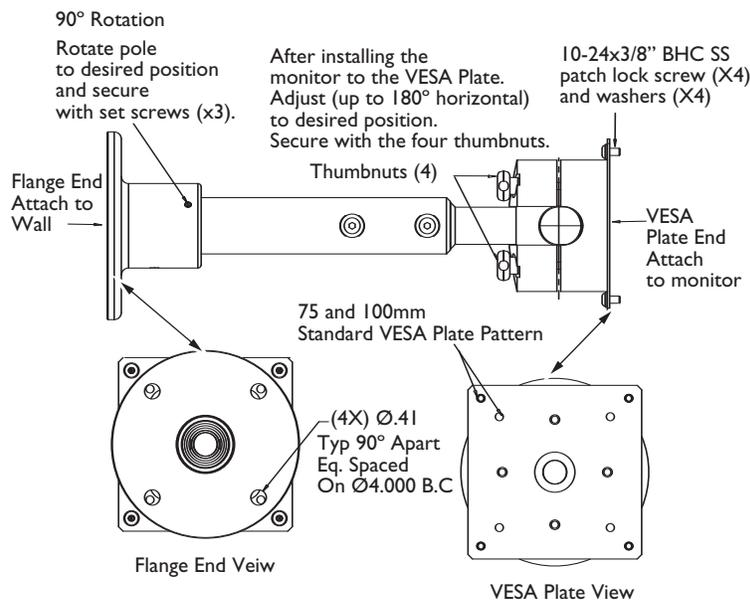

Figure 1: Mounting the MTFPF12F-
4. Make necessary adjustments to the pole and secure using the three (3) set screws.
5. Adjust the monitor to the desired position and secure using the four (4) thumbnuts. See **Figure 1**.